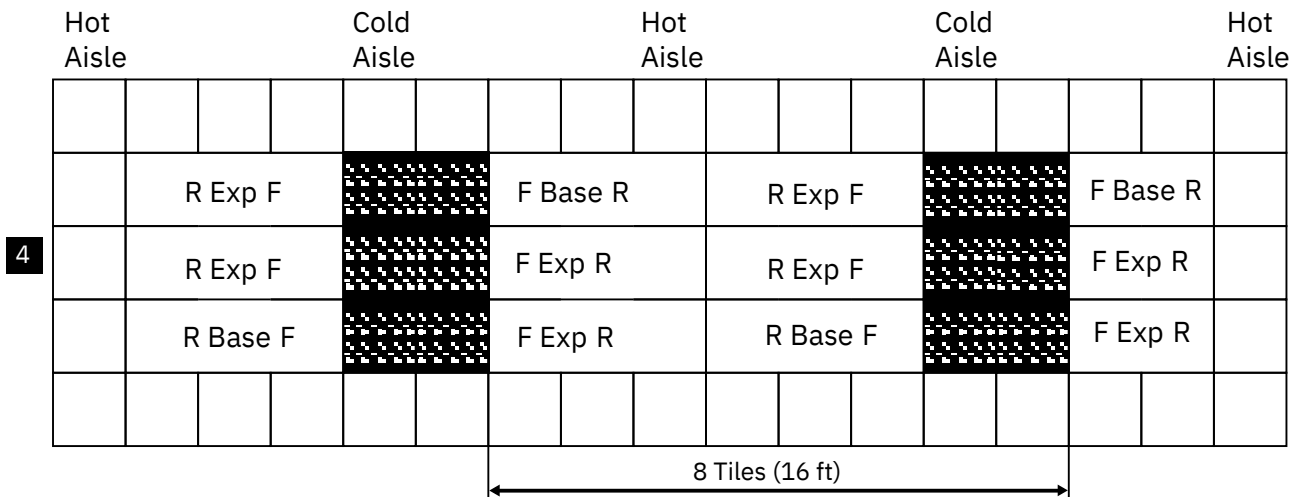

Figure 22. Typical rack and perforated tile locations for hot and cold aisles
- a. For stand-alone base frames, install two fully perforated tiles in front of each base frame, as shown in Figure 22 on page 139 in the single-machine examples (1 and 2 in the figure).
- b. For a row of storage systems, install a row of perforated tiles in front of the storage systems as shown in Figure 22 on page 139 (3 in the figure).
- c. For groupings of storage systems, where a hot aisle/cold aisle layout is used, use a cold aisle row of perforated tiles in front of all storage systems. An example of a possible minimal arrangement is shown in Figure 22 on page 139 (4 in the figure).
Note: Keep in mind that the example represented in Figure 22 on page 139 meets service clearance requirements. However, floor loading requirements might require a wider hot aisle to provide up to 30 inches of non-overlapping clearance (for total of 60 inches between the rear side of the frames on either side of the aisle.)